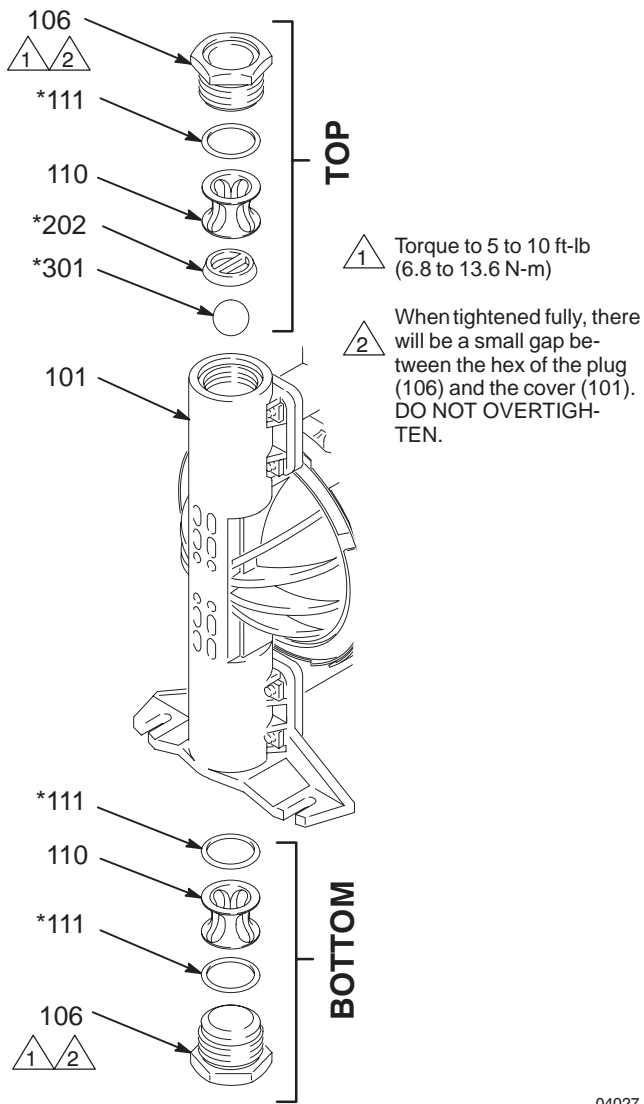
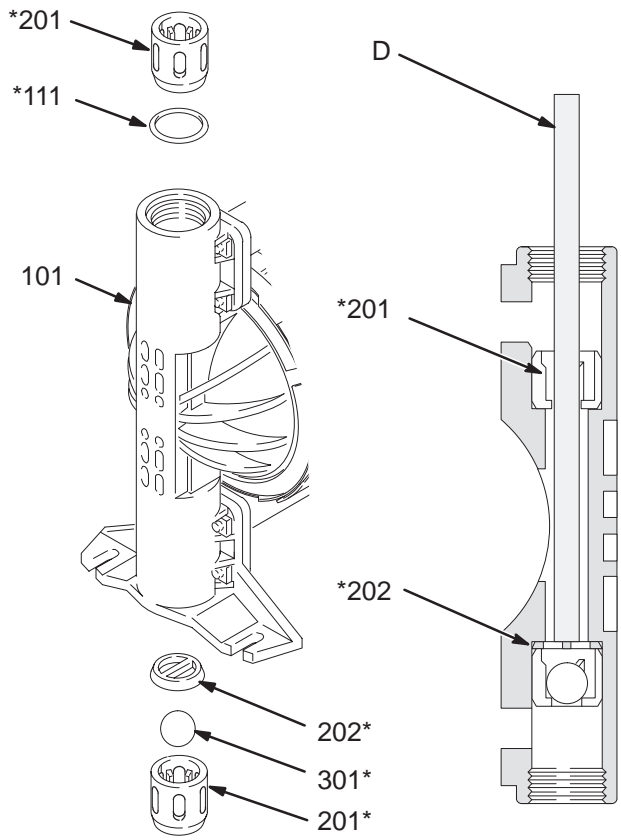

Fig. 18
Fig. 19
2. Use a 1–1/2" socket wrench to remove the plugs (106) from the top ball checks. Remove the o-ring (111), spacer (110), ball stop (202), and ball (301). See Fig. 18.
3. Turn the pump over. Remove the plug (106), o-rings (111), and spacer (110). See Fig. 18.
4. Insert a 3/8" dia. x 8" dowel (D) through the top ball guide (201). Press on the bottom ball stop (202) to push out the ball guide (201), ball (301), and ball stop. See Fig. 19.
5. Turn the pump over. Insert the dowel at an angle so it contacts the edge of the top ball guide (201), and push out the guide. Remove the o-ring (111).
7. Reassemble. Follow all notes in Fig. 18.